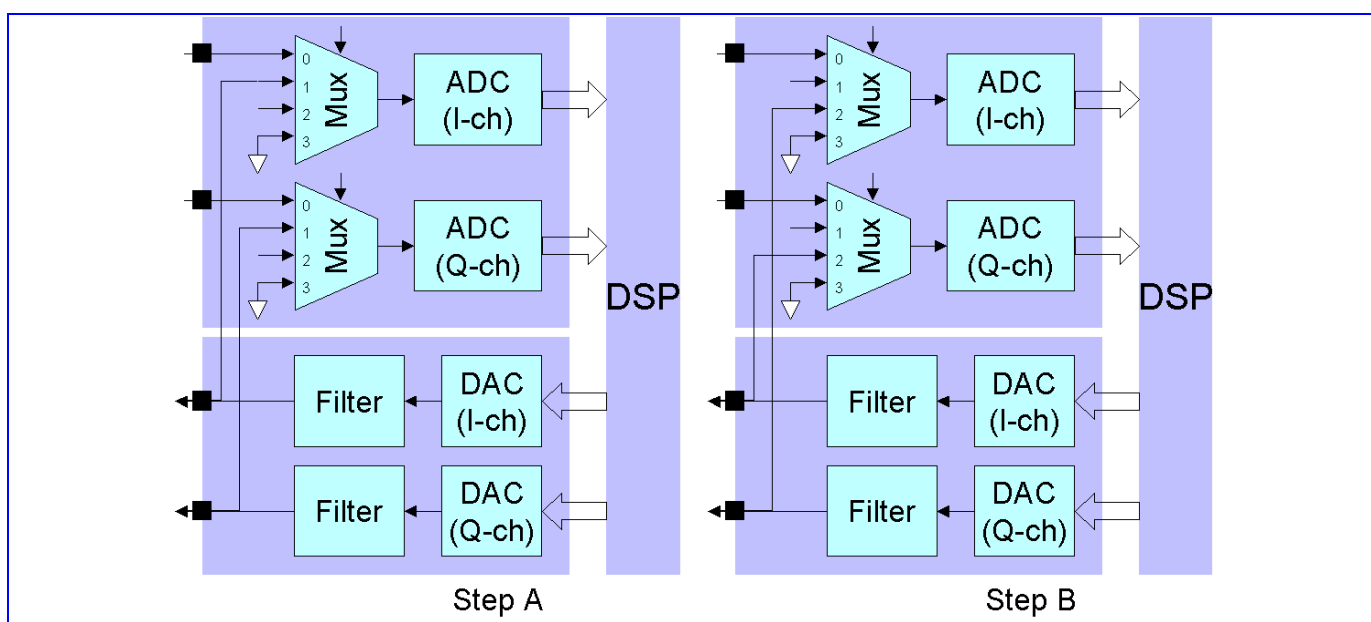

Figure 177 Downlink RX and Up-link TX Gain Mismatch Measurement (A) I/Q TX connect to I/Q RX (B) I/Q TX connect to Q/I RX
- A. The uplink I-channel output are connected to the downlink I-channel input, and the uplink Q-channel output are connected to the downlink Q-channel input. This can be achieved by setting **ISEL [1:0] = '01'** and **QSEL [1:0] = '01'** (shown in **Figure 177 (A)**).
- B. The uplink I-channel output are then connected to the downlink Q-channel input, and the uplink Q-channel output are connected to the downlink I-channel input. This can be achieved by setting **ISEL [1:0] = '10'** and **QSEL [1:0] = '10'** (shown in **Figure 177 (B)**).